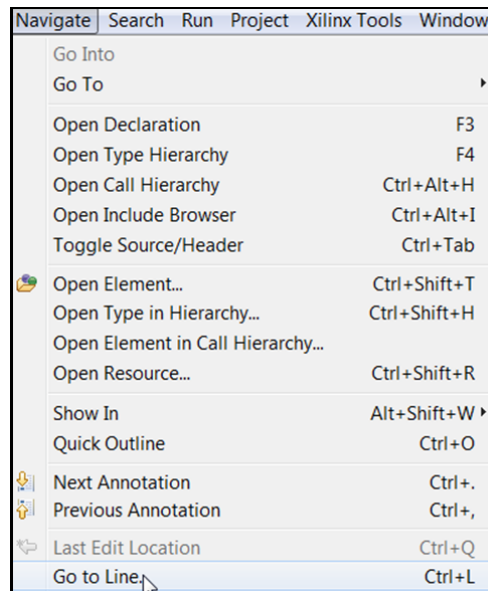

Figure 48: Go to Line
1. Select **Navigate > Go To Line** (FIGURE 48).